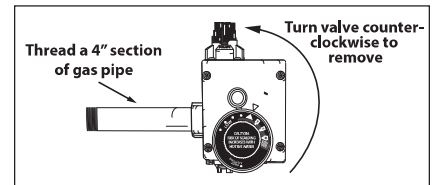

Figure 53 - Removing Existing Gas Valve
**7** To remove the gas control valve/thermostat, thread a 4" section of gas pipe into the inlet to turn the gas control valve/thermostat (counter-clockwise) (See Figure 53).